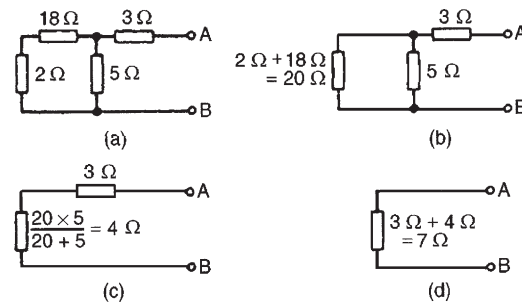

Figure 13.32
- (iv) The resistance 'looking-in' at terminals AB in Fig. 13.32(a) is obtained by reducing the circuit in stages as shown in Figs 13.32(b) to (d). Hence the equivalent resistance across AB is 7Ω .